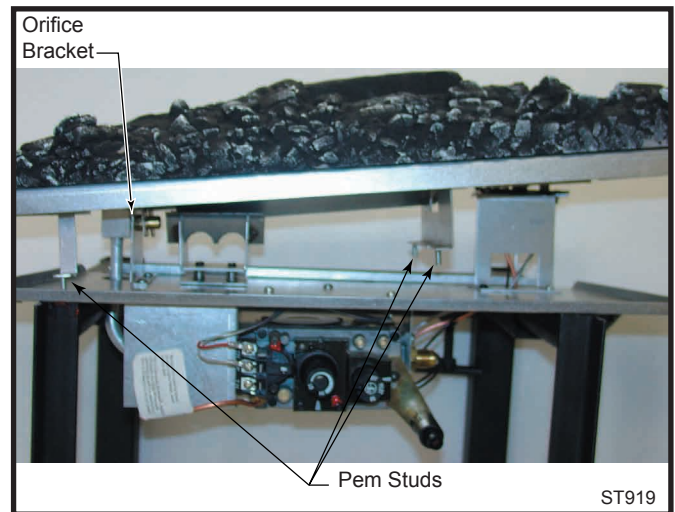

Fig. 14 Tilt ember bed slightly to correctly place on venturi and air shutter.
2. Carefully remove ember bed by tilting the right side up and lifting out toward the right side of the unit. (Fig. 14)
1. Replace burner making sure venturi on bottom of ember bed aligns with orifice and is seated properly on air shutter assembly. (Fig. 14) Make sure burner is slid into place at a slight angle and opposite to how it was removed. When burner is slid into place, the three (3) pem studs should slide down through clearance holes into the bottom of the control panel.